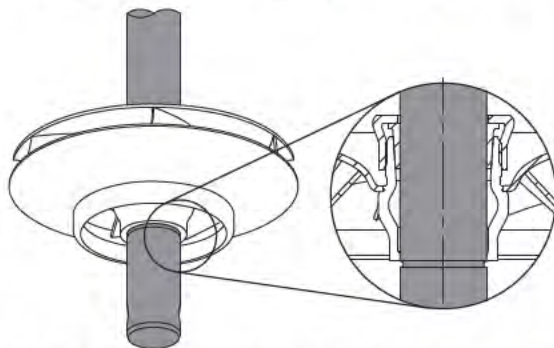

Fig. 13 Checking that the impeller flushes with the shaft groove
4. Fit impeller (pos. 49) onto the shaft and press it home in the inlet part.
5. Fit split cone (pos. 49b) and knock it into the impeller hub using the key for split cone nut.
6. Hold the impeller with the hook spanner and tighten split cone nut (pos. 48).
7. Remove the shaft from the holder and check that the impeller flushes with the shaft groove. See fig. 13.